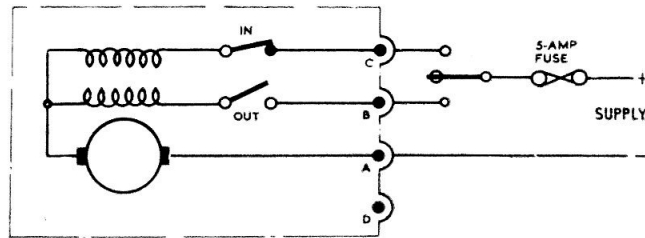

Fig. 2. Circuit diagram
3. The motor is rated at 0.008 h.p. at 5,800 r.p.m., and the field coils also control the operation of the brake. The travel of the piston is controlled at its extreme positions by two limit switches, operated by a trip lever, and connected as shown in the circuit diagram in fig. 2. They are of the make-and-break type, and are fitted with silver contacts.